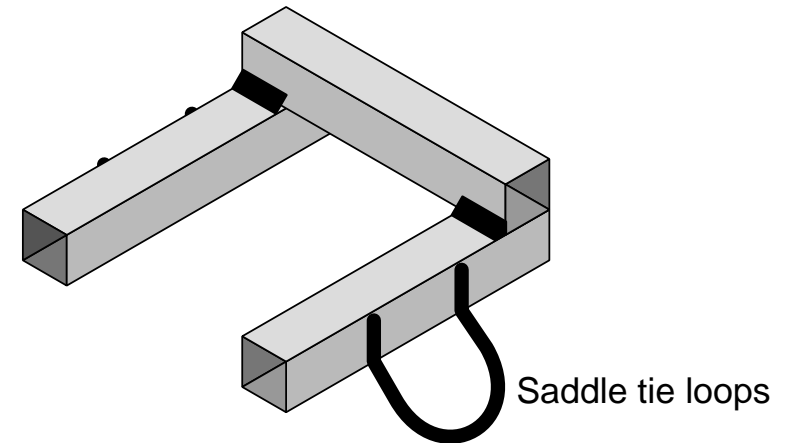

Figure 5: tie loop welded to U-frame.
- 3) Then weld the tie loops and the yoke attachment stub and loop onto the U frames so that the frame looks as shown in Figure 5.